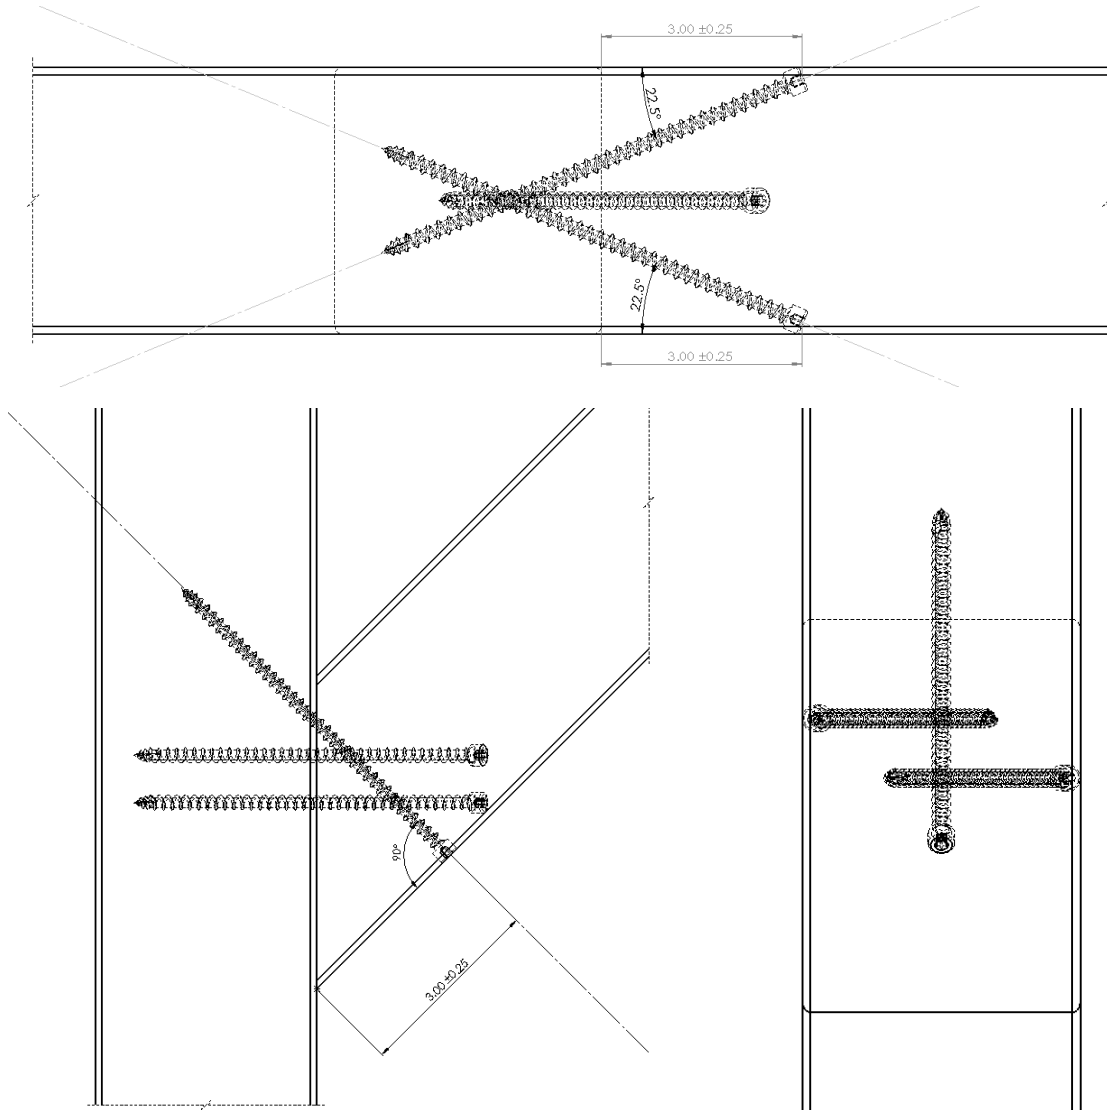
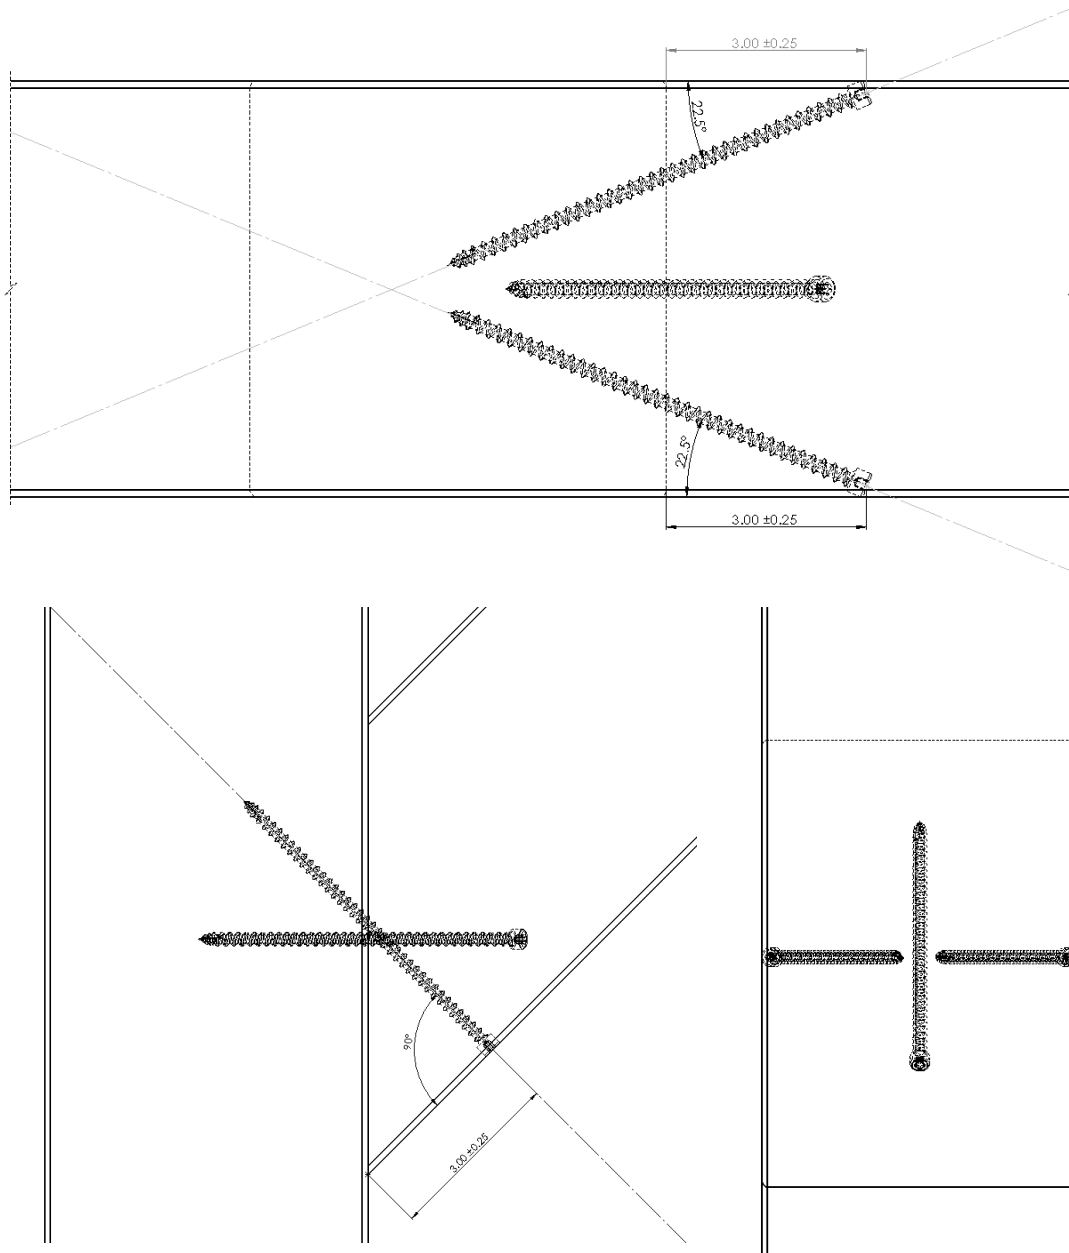

Figure 15. 4 x 4 Diagonal Brace Connection using CAMO Series #14 x 6 Truss Screws
Figure 16. 6 x 6 Diagonal Brace Connection using CAMO Series #14 x 6 Truss Screws
- 2.11.1 Knee brace is installed to post with one CAMO Series #14 x 6" Truss Screw at the bottom, one into the front and one into the back of the diagonal brace (See Figure 15 and Figure 16).